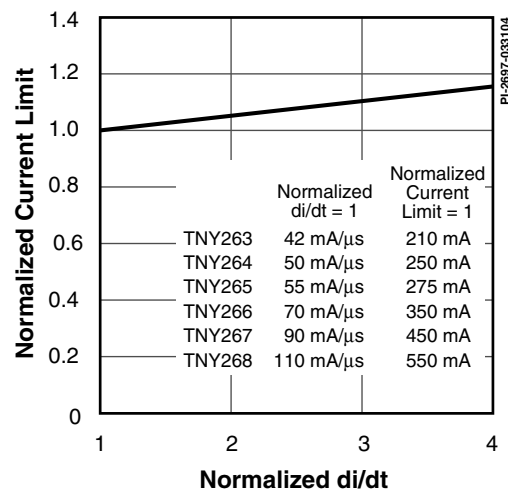

Figure 25. Current Limit vs.  $di/dt$ .
- For current limit at other di/dt values, refer to Figure 25.